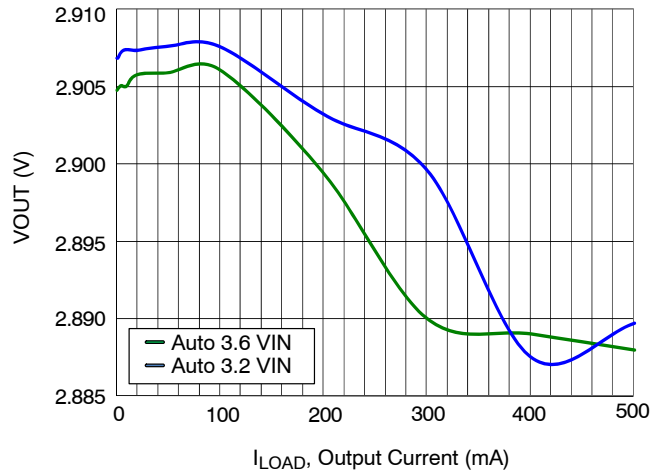

Figure 6. Load Regulation
To calculate the worst-case VDROPOUT, use the maximum PMOS RDS(ON) at high temperature from Figure 6.